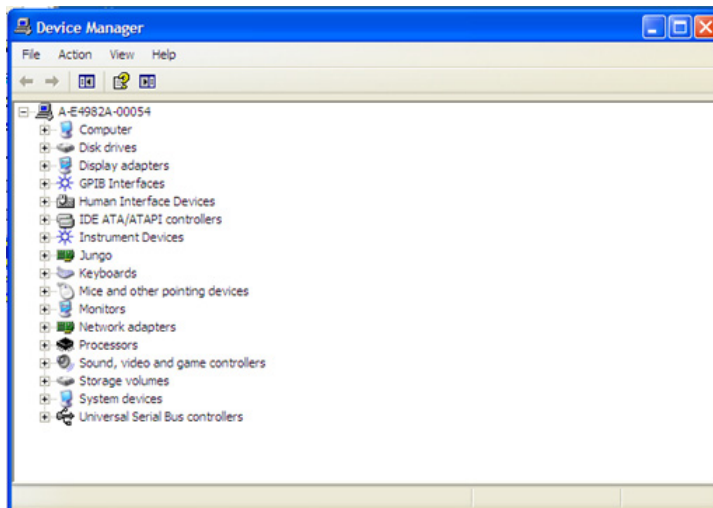

Figure 23 System Properties Window (Hardware)
Step 3. Select the **Hardware** tab and click on the **Device Manager** button. The operating system detects all the necessary device drivers and displays the device names as shown in **Figure 23**.